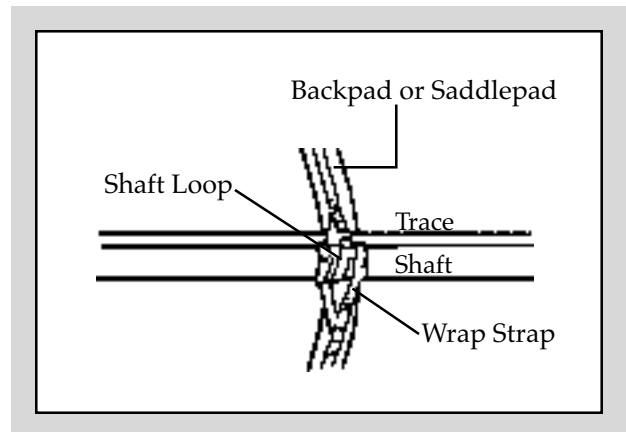

Figure 26. Closeup of Wrap Straps on the Shaft.
- Unbuckle the wrap straps and bring them up on the inside of the trace next to the horse. Wrap over the shaft in front of the shaft loop, then around underneath, "figure-eighted" behind the shaft loop, then buckled on the outside of the trace (see Figure 26).